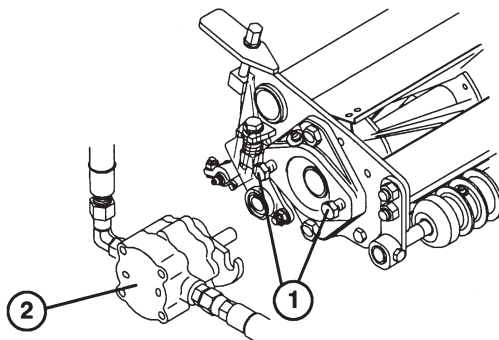

Figure 7
7. Assemble the mounting capscrews for the reel drive motor to each cutting unit. Leave approximately 1.2cm of thread exposed on each mounting capscrew (Fig. 7).
10. Coat the spline shaft of the motor with clean grease and install the motor by rotating the motor clockwise so that the motor flanges clear the studs. Rotate the motor counterclockwise until the flanges encircle the studs, then tighten the mounting capscrews (Fig. 7).